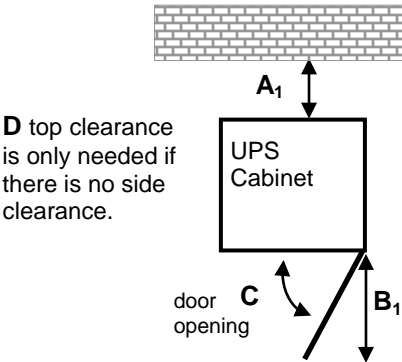

Figure 1: top view and indication of the minimum clearances for single UPS.
**UPS** : Minimal clearances according to the table below, are recommended for proper cooling as the air enters at bottom/front and exits at unit rear (see Fig. 1 and 2).